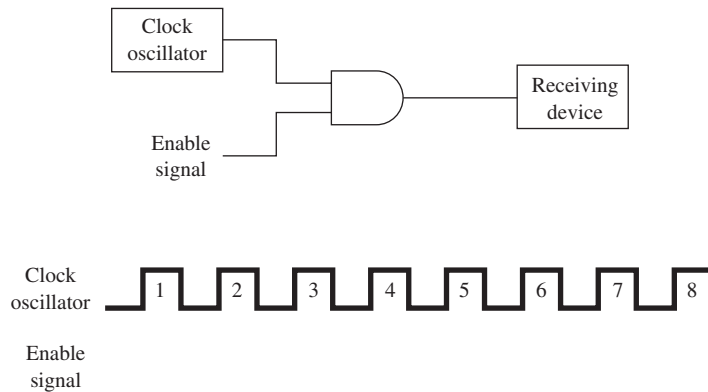

Figure P12
12. Using Figure P12, sketch the waveform for the *enable signal* that will allow pulses 2, 3 and 6, 7 to get through to the receiving device.